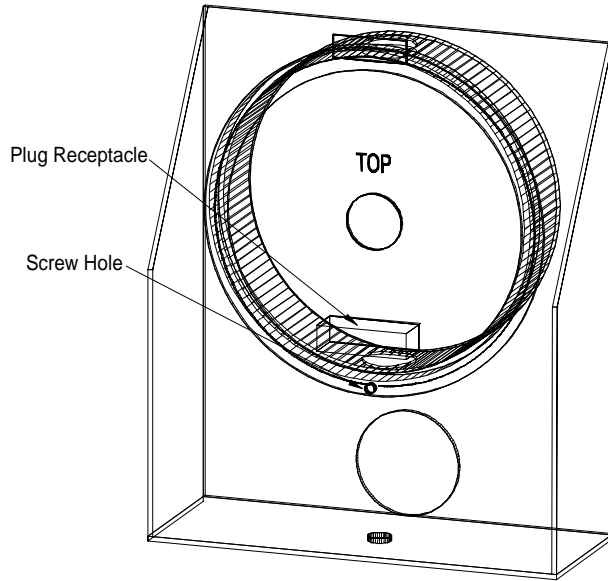

Figure 13 Mounting Bracket with Back Box and Signal Mounting Plate Attached
11. Align the holes in the horn signal mounting plate with the mounting screw holes in the back box bosses. The word "TOP" on the horn signal mounting plate and the back box should be oriented in the same direction and the screw hole on the bottom edge of the horn signal mounting plate should be directly over the gap in the back box gasket as seen in figure 13.